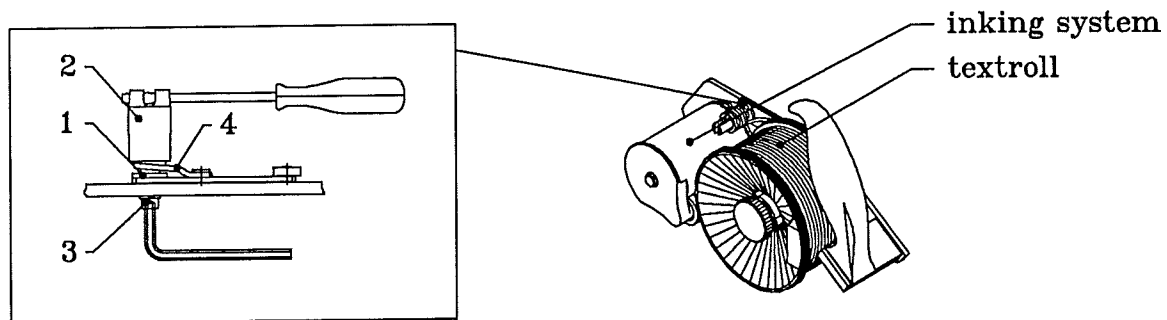

Figure 30 : Adjusting the excenter mechanism
7.1 GENERAL INTRODUCTION (see figure 30)
7.2 ADJUSTING THE EXCENTER MECHANISM (see figure 30)